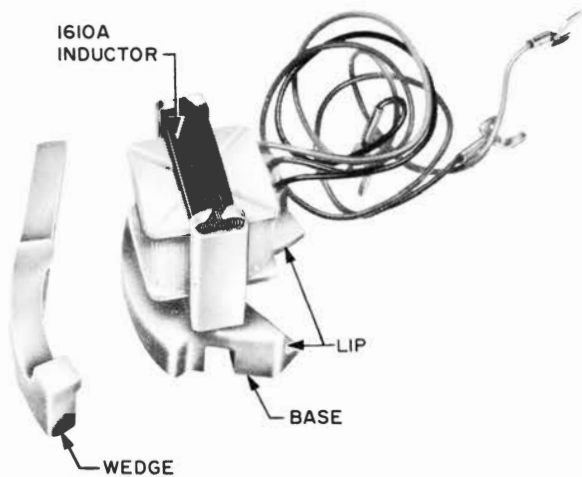

Fig. 3 — 1610A Inductor
2.05 Where no ringer is used and tip-party identification is required, a 1610A inductor shall be installed in the Princess set as shown in Fig. 3, 4, and 5. The inductor is ordered separately and includes the wedge as shown in Fig. 3. The procedure for installing the inductor is as follows:
7. Replace dial and housing (Fig. 3, 4, and 5).